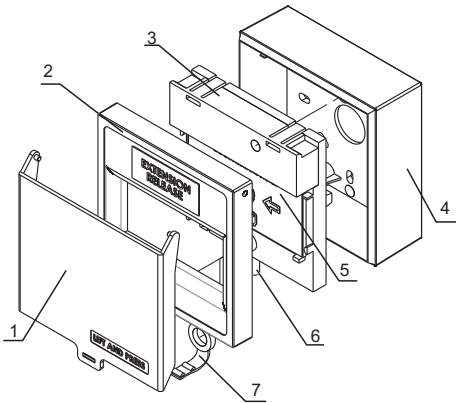
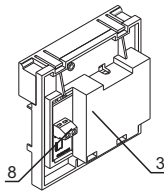

Fig.1
Fig.1a
FD3050 G consists of : surface mounting back box (pos.4, fig.1), a carrier unit (pos.3, fig.1), a glass element with protective sticker (pos.5, fig.1), a test key (pos.6, fig.1), a breakable seal (pos.7, fig.1), a cover (pos.2, fig.1) and a protective cover (pos.1, fig.1).
1. Dismantle the cover (pos.2, fig.1) and replace the glass element, (pos.5, fig.1) and the torn breakable seal (pos.7, fig.1).
1. Dismantle the basic components of the unit, shown on fig.1 by unscrewing the fixings.
3. Join the wires of the input line to terminals (pos.8, fig.1a), located on the rare side of the carrier unit (pos.3, fig.1).